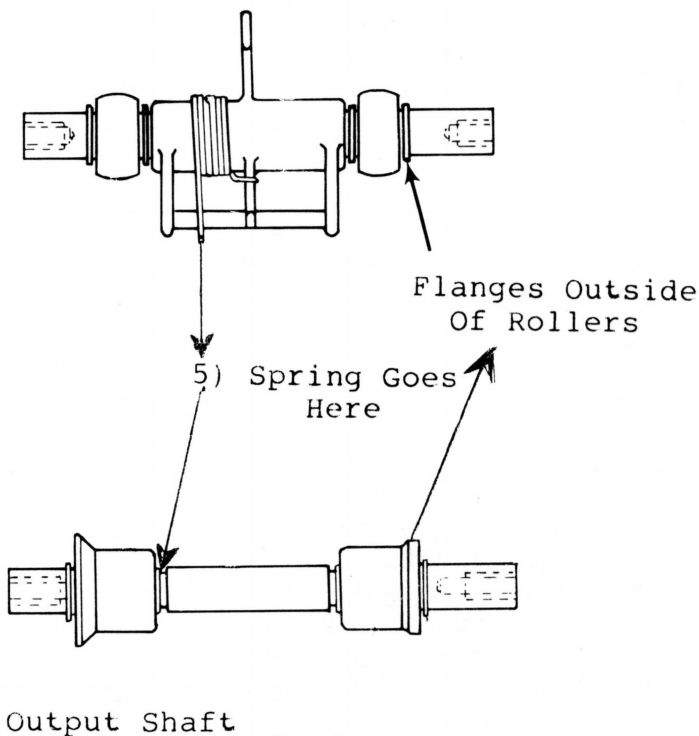

Figure 3
- b) Remount Output Shaft, being sure to hook the Torsion Spring (Figure 3, number 5) to the Lower